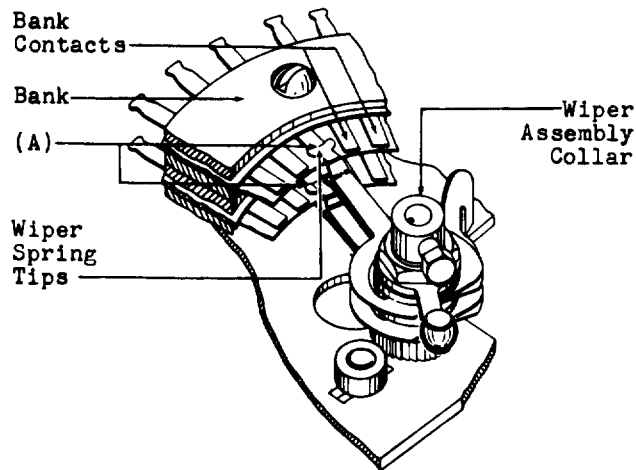

Fig. 6—Alignment of Wiper Springs on Bank Contacts
2.08 Relation of Wiper Spring Tips to Bank and Bank Contacts: Fig. 6(A)